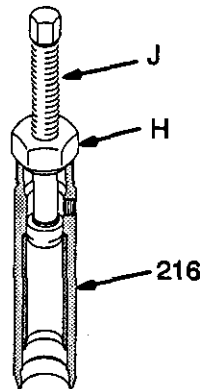

Fig. 30
- Remove the sleeve whenever you service the pump. Use special tool, Part No. 224-787 only. Screw the nut (H) into the cylinder (219). Screw down the rod (J) to push the sleeve out. See Fig. 30.